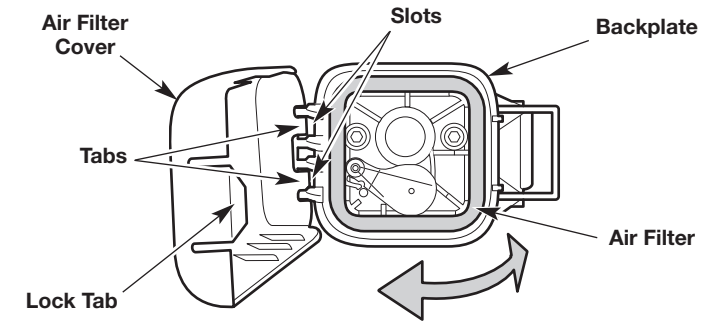

Fig. 16
1. Open the air filter cover: press in the lock tab and swing the air filter cover to the left (Fig. 16).
2. Remove the air filter (Fig. 16).
6. Reinstall the air filter (Fig. 16).
7. Close the air filter cover: insert the tabs on the air filter cover into the slots on the backplate. Swing the air filter cover to the right and press it closed until the lock tab snaps into place (Fig. 16).